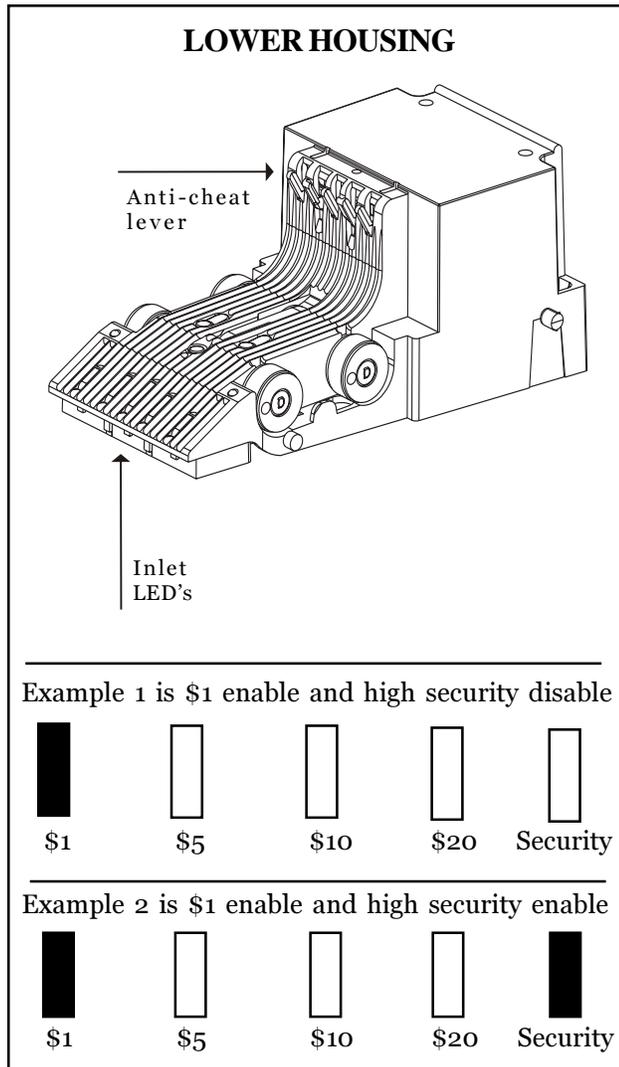

Figure 1
- Remove the lower housing (See Figure 1).